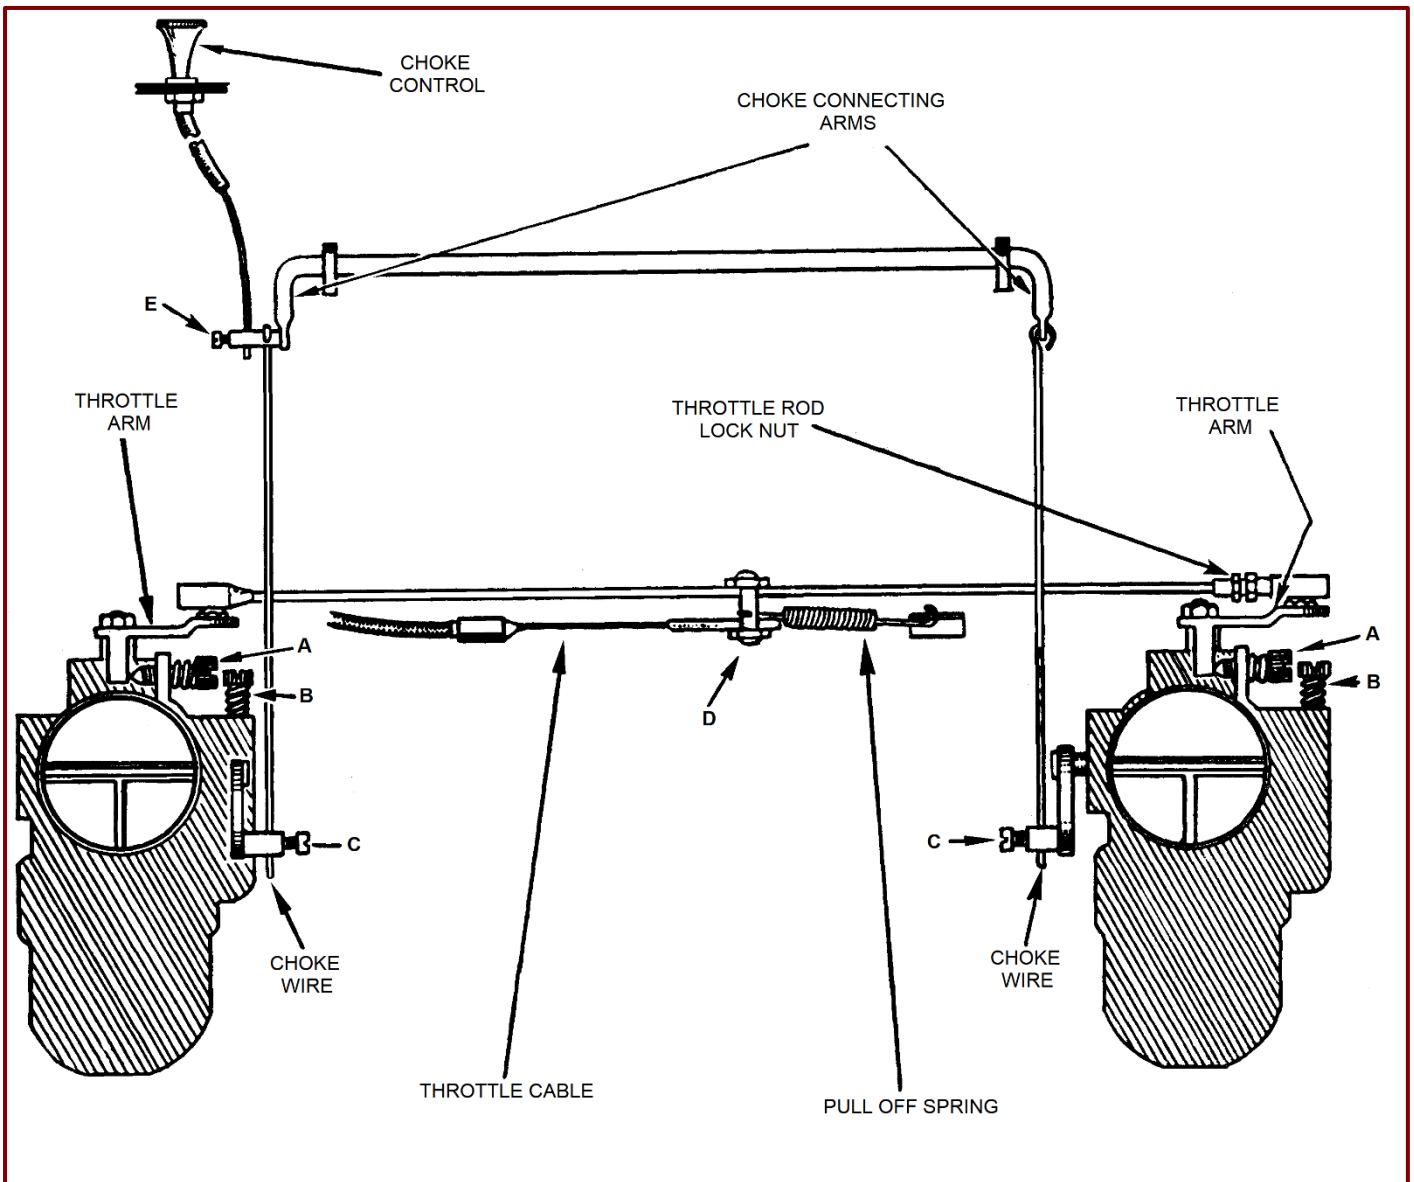

Figure 9. Carburettor Controls.
Refer to *Figure 9*. The engine should be warmed up to normal temperature (65 °C to 75 °C) and the air regulating screw (B) on each carburettor should be adjusted; the latter enriches the mixture when turned clockwise and weakens it when turned anti-clockwise.
Refer to *Figure 9*, Page 11, and proceed as follows:
1. Remove pull off spring (*Figure 9*).
2. Release locknut (D) and withdraw throttle cable.
4. Turn out throttle stop screws (A) until throttle arms are in the fully closed position.
5. Now holding throttle arms in the closed position turn adjusting screws (A, *Figure 9*) until they just contact the arms and then turn a further full turn. This ensures that both throttle plates are open exactly the same amount.
6. Again ensuring that the throttle arms are resting on stop screws (A), retighten the throttle rod nut thereby securing the throttle rod at its correct length.
7. Connect the throttle cable making sure that whilst no excessive slack exists, it does allow the throttle arms to rest against stop screws (A) when in the fully-closed position. Replace pull-off spring.
8. Screw in fully the air regulating screws (B), without forcing, and loosen out two turns, which is the approximate slow running position.
9. Start the engine and allow to warm. If the engine speed is too slow, turn stop screws (A) equally in a clockwise direction until the desired speed is obtained. If the engine refuses to run for any length of time and gradually dies, it indicates that the mixture is too weak. To enrich turn mixture screws (B) inwards equally. If the engine tends to 'hunt' ('surge'), the mixture is too rich, and mixture screws (B) should be turned outwards equally.
Referring to *Figure 9*, proceed as outlined below:
Legend for Figure 9:
1. Slacken off choke wire screws (**C**, Figure 9), allowing choke wires to move freely in the strangler flap levers.
2. Ensuring the choke control knob is pushed in fully, slacken off choke cable screw (**E**, Figure 9) on right-hand side choke connecting arm and move arms until maximum fulcrum position is obtained, which is the choke connecting arms and choke wires pointing in a direct line to the strangler flap levers. Retighten choke cable screw (**E**) in this position.
3. Holding the strangler flap levers forward so that strangler flap is in full open position, tighten choke wire screws (**C**, Figure 9). Finally, release air cleaner tube clip from top of carburettor and move tube to one side so that strangler flap is visible. Pull choke control knob out fully and ensure that